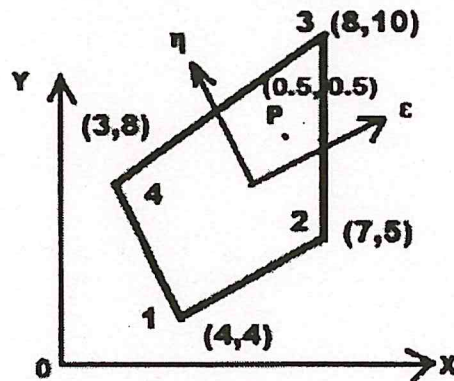

Figure 15(a)
15. (a) Evaluate the Jacobian matrix at the local coordinates $\xi = \eta = 0.5$ for the linear quadrilateral element with its global coordinates as shown in figure 15(a).